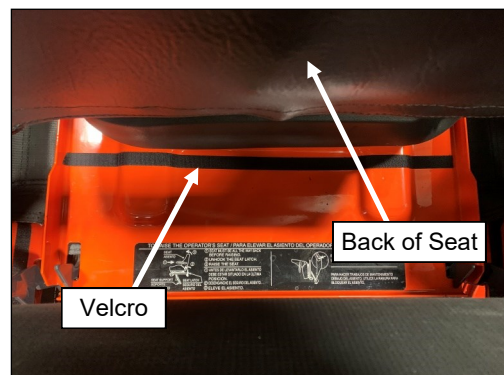

Fig. 10.3 (Install Velcro)
10.3 See fig. 10.3. Lower the seat, slide the seat completely forward, tilt seat back forward, and install adhesive Velcro to the seat base so that it is located up against the stamped rib as shown.